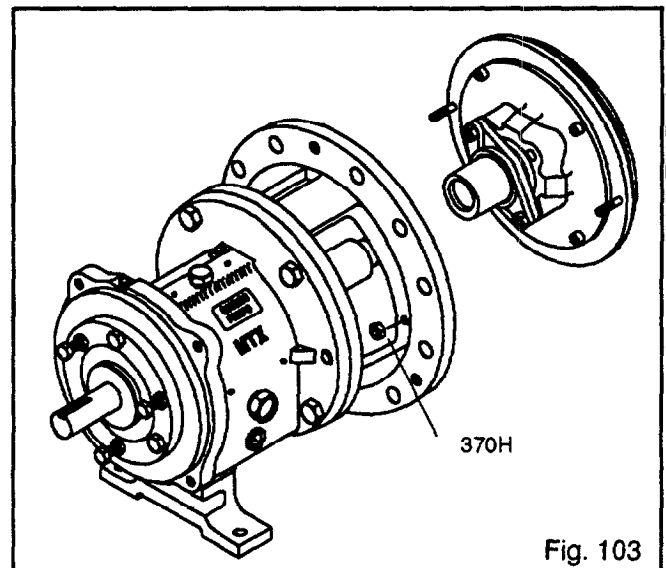

Fig. 103
8. Install dynamic seal assembly. Install nuts (370H) (Fig. 103).